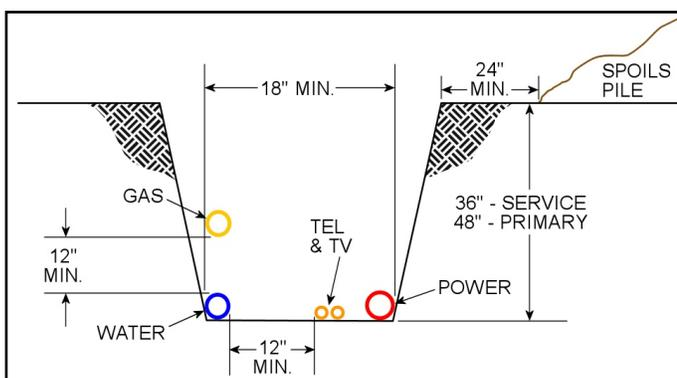

Figure 21: Trenching Details
The excavated trench must be free of sharp objects or obstructions that could damage the conduit. After the conduit is installed, the first 6 inches of cover should be earth which is free of large rocks, sharp objects, or scrap building materials. **The trench and conduit MUST be inspected by Forest Grove Light & Power prior to backfilling. A Utility personnel will apply a bright green sticker to the conduit after it has passed inspection.** The service will not be energized until adequate clearances have been provided and the trench has been backfilled and compacted. Mark the end of the conduit to allow the crews to find the conduit and connect to it. To schedule an inspection of the installed conduit and open trench, call FGLP at (503) 992-3250. Refer to Figure 21 for additional trenching details.